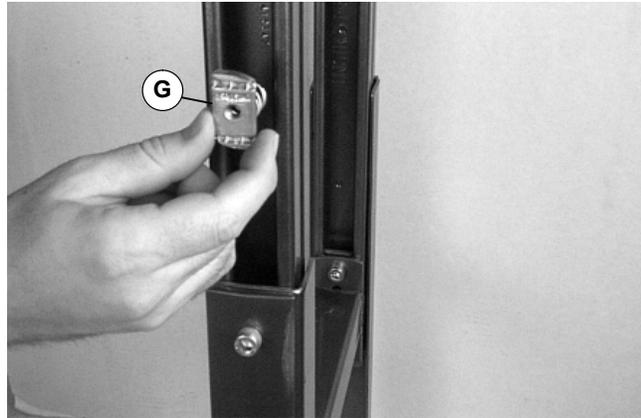

Figure 6
2. Install spring nut (G of Figure 6) into steel stand channel.